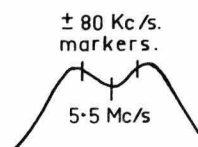

FIG. 3.
- Tune secondary core to obtain the bandpass shown in Fig. 3.